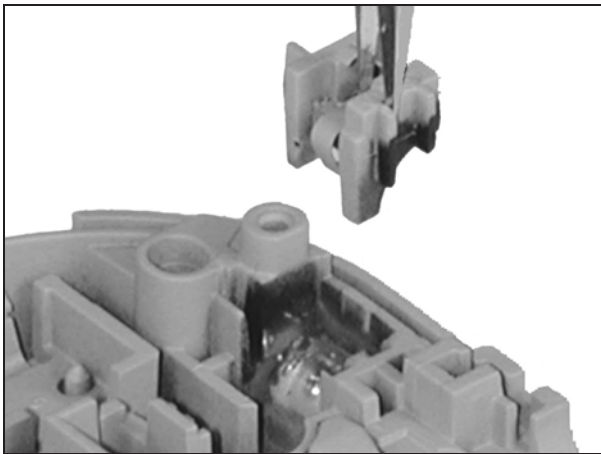

Figure 7-22.
3. Wedge black stick underneath entire contact and gently pry up until free. (See Figure 7-22.)